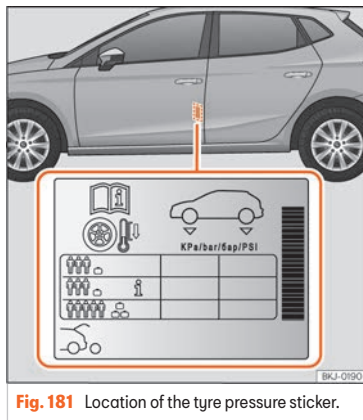

Fig. 181 Location of the tyre pressure sticker.
- Adjust tyre pressure to the load being carried by the vehicle »»» Fig. 181.
The values of the tyre pressure are shown on the sticker label located on the rear frame of the front left door >>> Fig. 181.
The tyre pressure must be adjusted according to the load the vehicle is carrying. If the vehicle is going to be fully loaded, increase the tyre pressure to the maximum load value shown on the sticker label >>> Fig. 181.
In the case of a minimised temporary spare wheel (125/70 R16 or 125/70 R18) inflate to a pressure of 4,2 bar as indicated on the tyre pressure label >>> Fig. 181.
Depending on the vehicle, tyre pressure can be adjusted to medium load to improve driving comfort [tyre pressure **i** >>> Fig. 181]. When driving with comfort tyre pressure fuel consumption may increase slightly.
- **The driver is responsible for ensuring that all of the vehicle tyres are correctly inflated to the right pressure. The recommended tyre pressure is indicated on the label >>> Fig. 181.**
- **Tyre pressure should be that indicated on the label when the tyres are cold at all times >>> Fig. 181.**